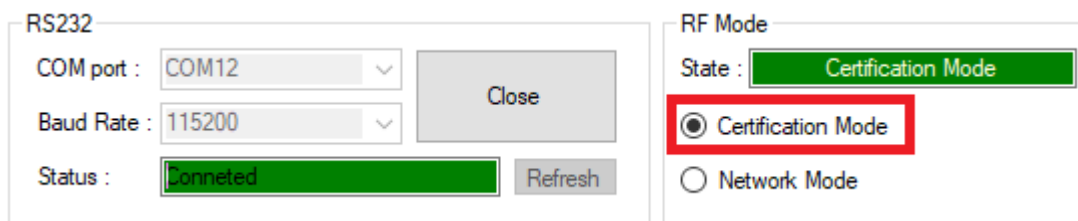

Figure 7: Certification Mode Configuration
1. Open the **Settings** tab. See Figure 7.